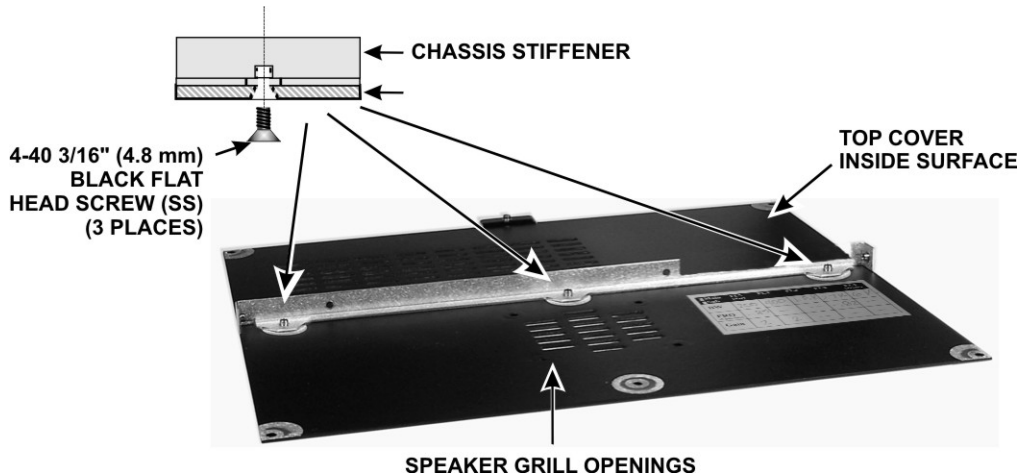

Figure 84. Attaching Chassis Stiffener to Top Cover.
- Mount the chassis stiffening bracket on the underside of the cover as shown in Figure 84. Do not use washers.